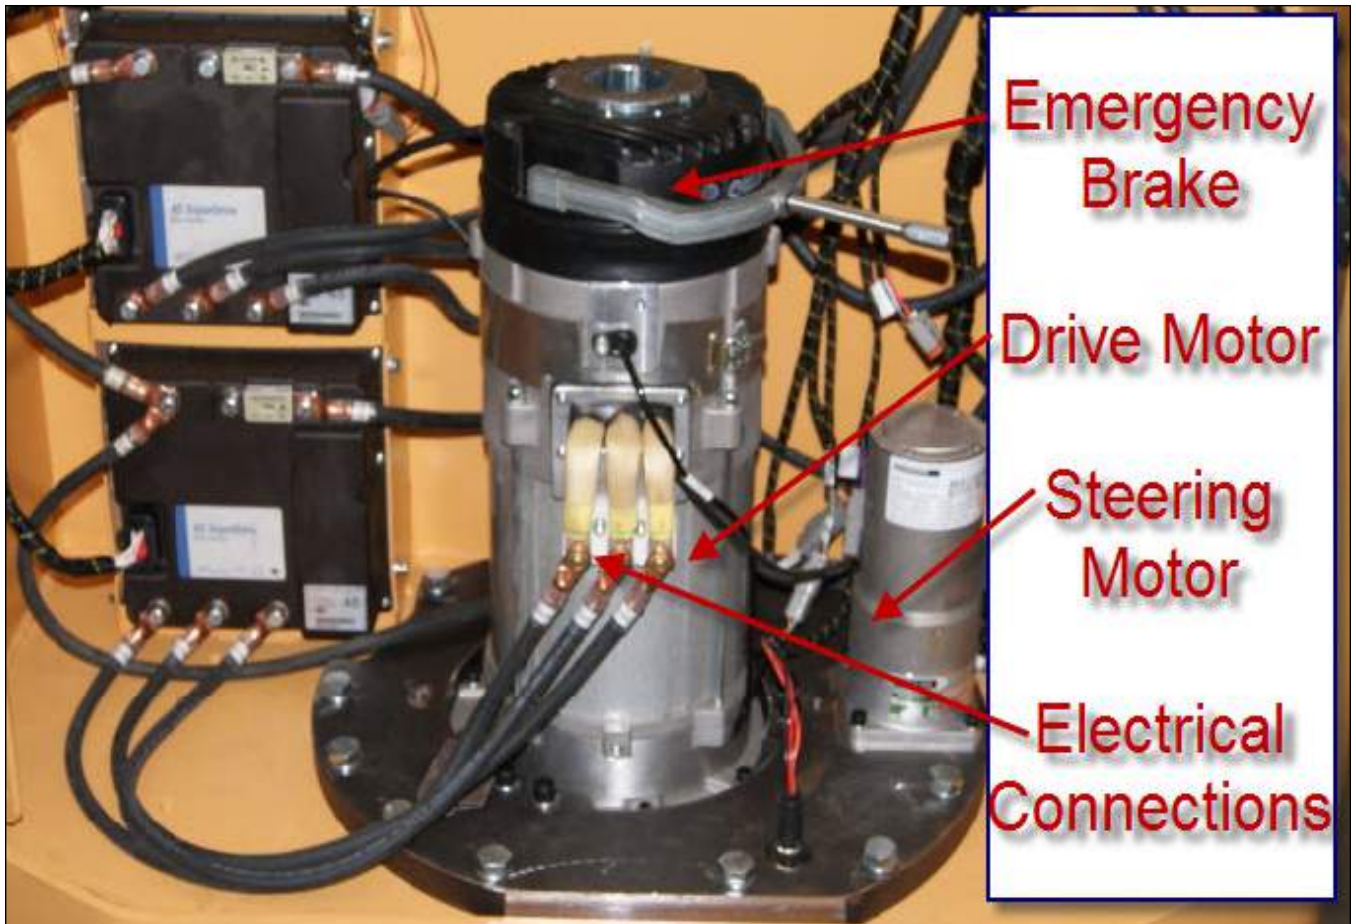

Figure 3-6: Drive and Steering Motor
The motor used to steer the SLT30 /35 AC is electric and has no brushes. If this motor fails, it is to be repaired by replacement only. See Figure 3-6.
1. For instructions below, See Figure 3-6.